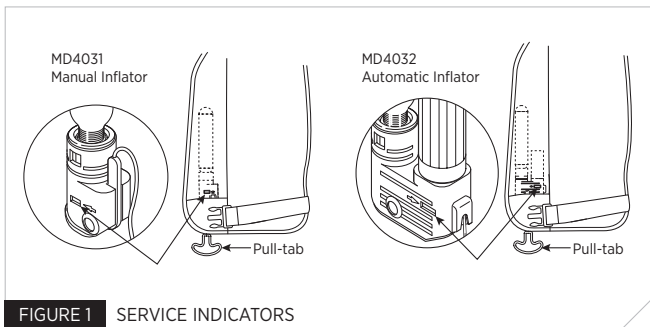

FIGURE 1 SERVICE INDICATORS
1. Place your flotation device on a flat surface with the bottom of the device facing you. At the bottom of the left lobe, lift the inflator cover to expose the inflator and cylinder assembly. Examine the service indicator to ensure it is green (Fig. 1). If the service indicator is red, the mechanism has been fired or is incorrectly fitted and must be re-armed (see “Re-arming” on page 10 for MD4031 or page 12 for MD4032). **The service indicator must be GREEN before you proceed.**